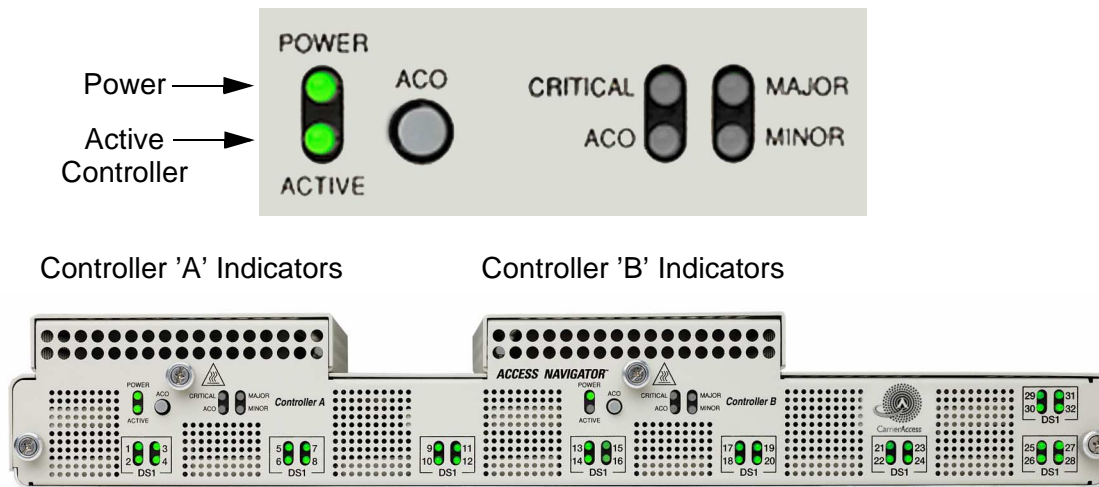

Figure 16-8. Location of Front Panel Controller Status LEDs
7. Verify active status of new Controller card. The LED indicators (see Figure 16-8) should be as follows: